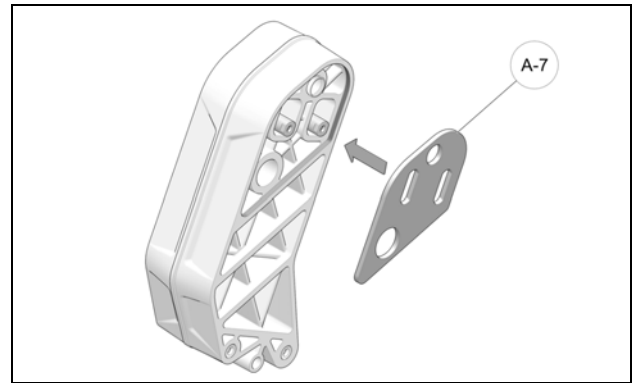

Figure 3
- Install the second Side Plate (A-7) on the left side of the Ski Upright. Align the upper shafts with the openings in the Plate. Press the parts together to complete the assembly of the Side Plates to the Ski Upright. See Figure 3.